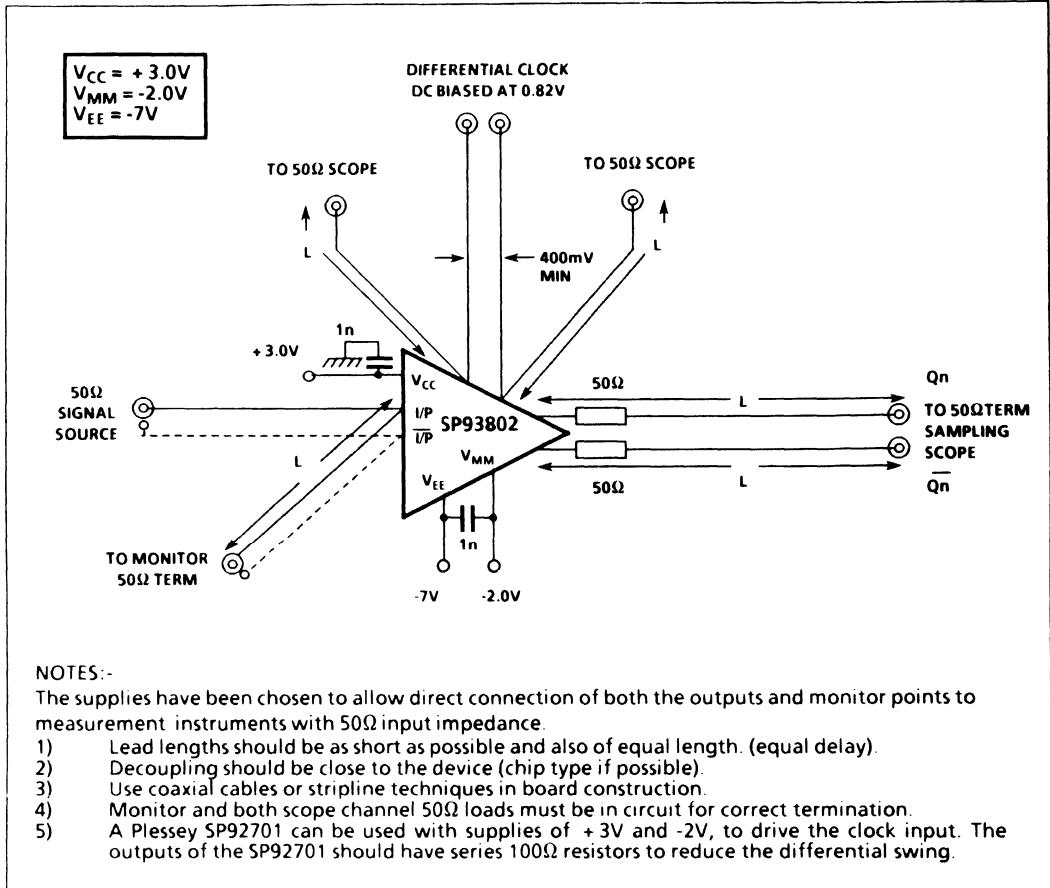

Fig.8 Comparator dynamic test circuit (one channel)
1. SET is the input to the glitch capture circuit and is logically the same as the Q output from the comparator. see Fig 8